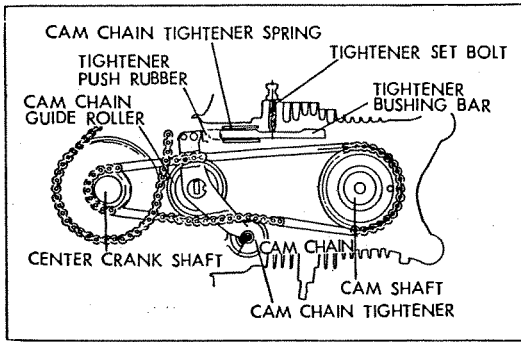

Fig. 3.17 Installing cam chain
2. When assembling the cylinder head, installation of the cam chain should be made as shown in the figure with attention directed to avoiding deviation in timing. (Refer to Fig. 3.17)